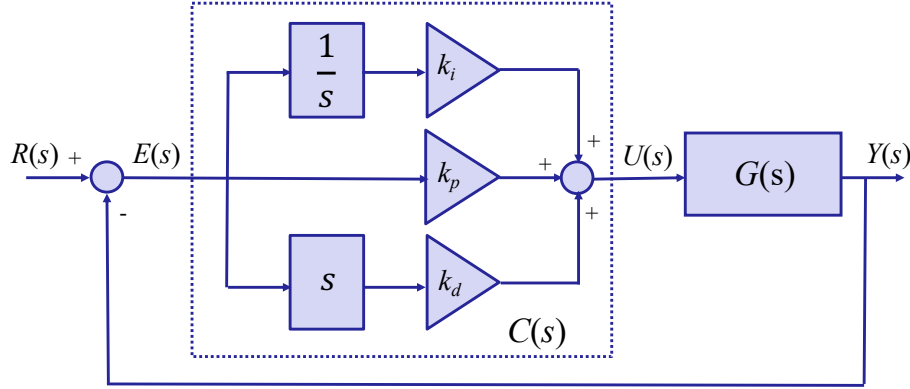

Figure 7: Block diagram of PID control.
where $U(s) \triangleq \mathcal{L}\{u(t)\}$, $E(s) \triangleq \mathcal{L}\{e(t)\}$, $R(s) \triangleq \mathcal{L}\{r(t)\}$, and $Y(s) \triangleq \mathcal{L}\{y(t)\}$. The corresponding block diagram is given in Fig. 7. The functionality of the PID controller can be summarized as follows. The proportional term is based on the present error, the integral term depends on past errors, and the derivative term is a prediction of future errors. The design of the PID controller reduces to the selection of the proportional gain k_p , integral gain k_i , and derivative gain k_d so that the output $y(t)$ tracks the reference $r(t)$.
1. Show that the transfer function $Y(s)/R(s)$ in terms of the general controller $C(s)$ and the plant $G(s)$ for a closed-loop system as the one shown in Fig. 7 can be written as
2. Show that the transfer function $E(s)/R(s)$ in terms of the general controller $C(s)$ and the plant $G(s)$ for a closed-loop system as the one shown in Fig. 7 can be written as